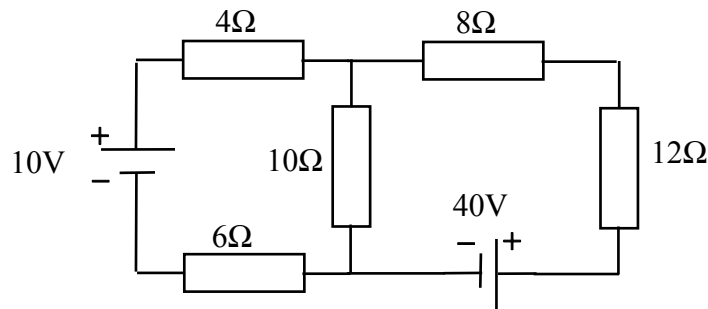
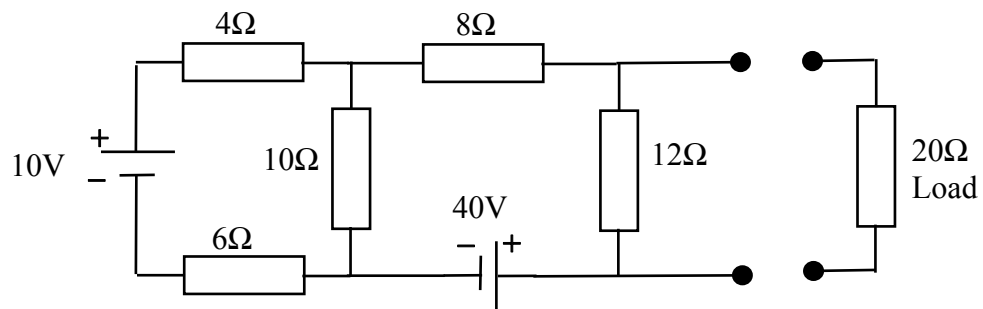

Figure 3.1
Figure 3.2
- (i) Calculate the new kVA rating of the factory. (5)
- (ii) Calculate the new overall power factor and state whether it is lagging or leading. (1)
- (i) Draw a diagram to show where you would connect the capacitor. (1)
- (ii) Find kVAr rating of the capacitor, the magnitude of the current drawn by the capacitor, and the value of the capacitor in Farads. (4)
- (iii) What is the peak voltage the capacitor must withstand under normal operating conditions? (1)
- a. For the network shown in Figure 3.1, find the value of the current through the 10Ω resistance using the method of superposition. Indicate the direction of the current. (6)
- b. The network of Figure 3.1 is to be used as a source for a load resistor of 20Ω , as shown in Figure 3.2. Derive the Thevenin equivalent circuit for the source and hence calculate the power dissipated in the load resistor. (6)
- c. Calculate the Norton equivalent circuit for the source network shown in Figure 3.2 (i.e. not including the load resistor). (3)